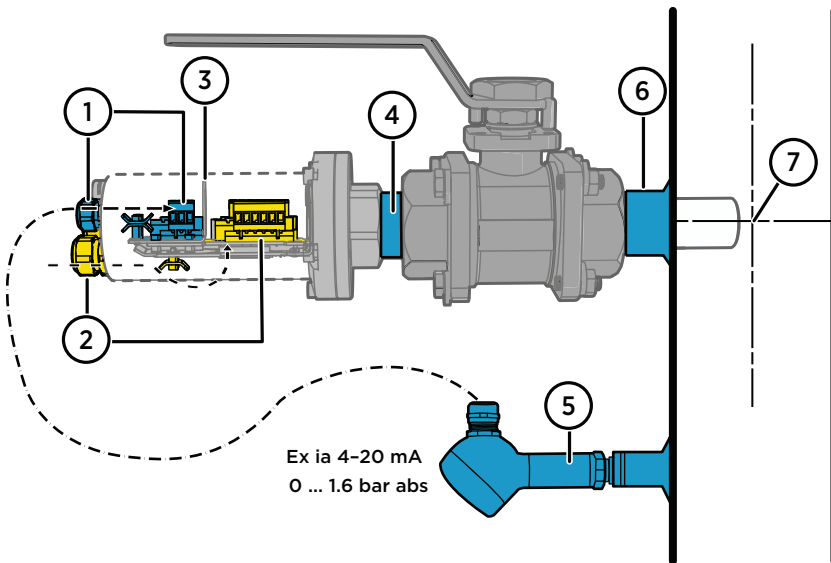
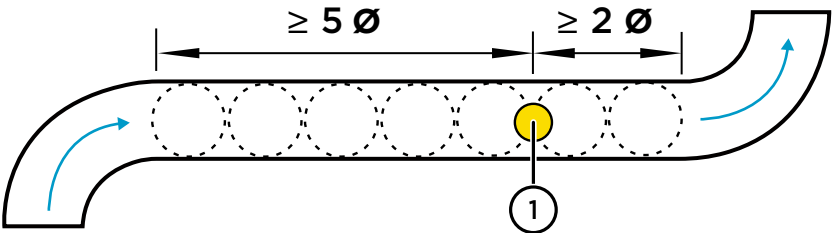

Figure 12 MGP260 ball valve installation example with wiring routes and recommended orientation and depth
Figure 15 Recommended MGP260 installation position on pipeline
Figure 12 \(page 42\) shows an example MGP260 ball valve installation. The figure highlights the correct wiring routes and shows the recommended installation depth and orientation.
For an example of connecting a pressure input instrument, see Figure 12 (page 42).
Figure 15 (page 45) shows the recommended installation position for MGP260. Install the probe in a straight run of pipeline, ≥ 5 pipe diameters downstream of the closest bend or other feature affecting gas flow, and ≥ 2 pipe diameters upstream to the next bend or similar feature. For best results, use the orientation and installation depth shown in Figure 12 (page 42).
- Pressure measurement received from an external pressure measurement instrument through the Ex ia (4–20 mA) input terminals on the MGP260 component board. This is the recommended option: for an example, see Figure 12 \(page 42\). The wiring of the external pressure instrument input is shown in Figure 17 \(page 52\).